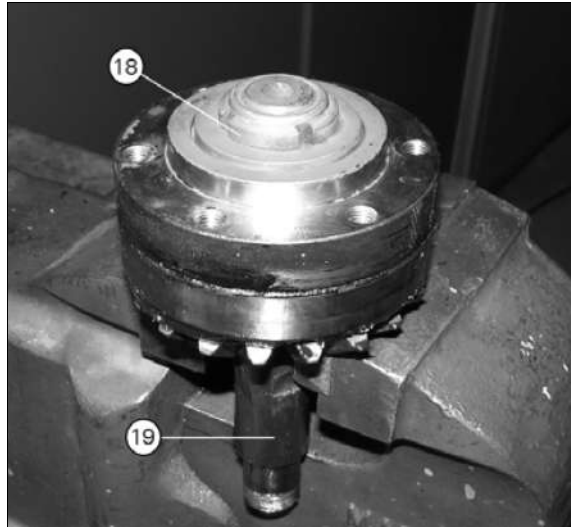

Fig. 15.
26. The nut pos. 18 must be tightened to 147 Nm (fig. 15).